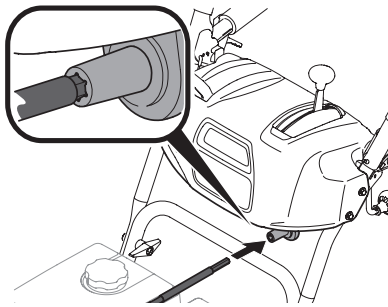

Figure 2-34
- Units with Crank Chute Control - Insert hex end of flex shaft into chute control rod coupling under dash panel. See Figure 2-34.